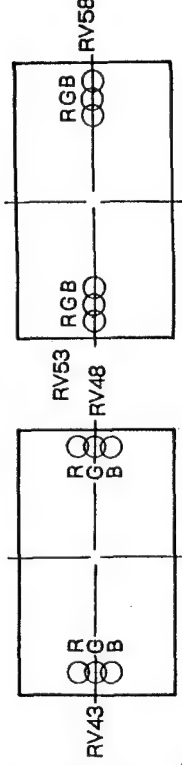

Fig. 1-22.
2. Adjust RV43, RV48 and RV53, RV58 on the DC board to coincide with the R, G and B dots as shown in Fig. 1-22.